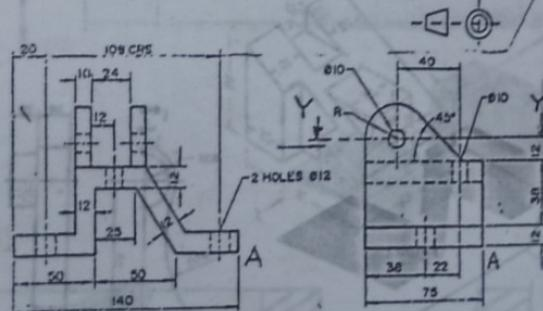

Figure 2
- 2 Make isometric drawing of the views in Figure 2, such that point A is the lowest point on the drawing.
- 4 Draw sections Y-Y as shown in Figure 2.